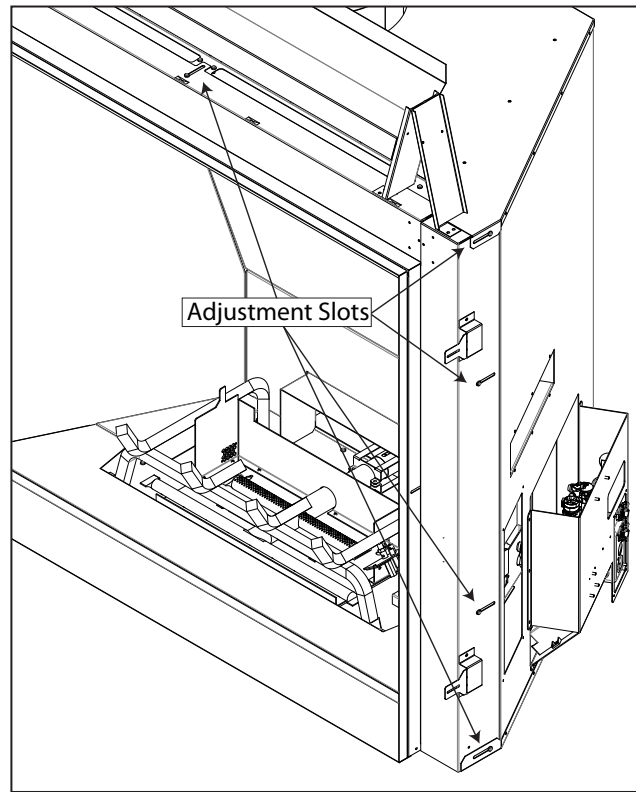

Figure 34: Framing Depth Adjustment
4. There are eleven (11) slotted fasteners that need to be loosened to adjust the framing depth. There are two (2) behind the side covers removed in the prior step, four (4) on the outside of each cabinet side, and one (1) of the top-center of the unit (see Figure 34).
5. With the fasteners loosened, the front face should now be adjustable. All pieces are still connected to each other and should move as one. Adjust the depth to match the desired framing material then retighten the eleven (11) slotted fasteners.